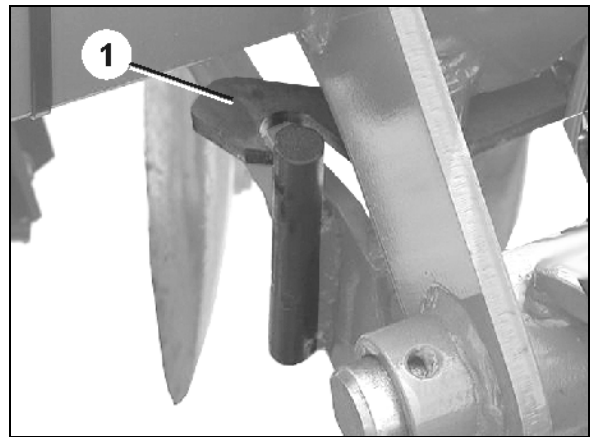

Fig. 27
- Secure disc rows in transport position on both sides by means of securing hooks (Fig. 27/1).
- Securing hook unlocks the disc rows (Fig. 27/1).